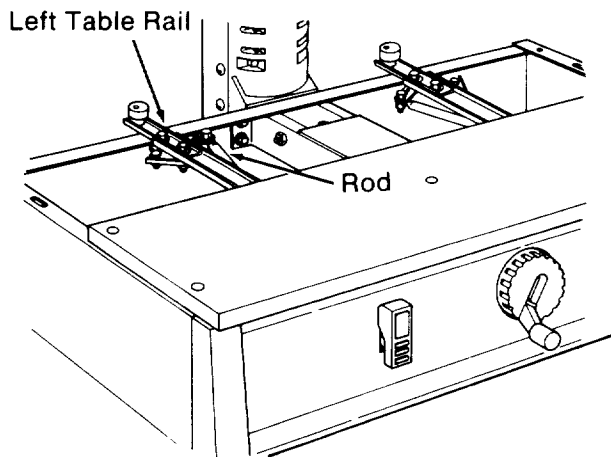

Fig. 41
10. Attach the *left rod* to the *left table rail* with a hex head bolt and flat washer. Then put another washer and a locknut on the bolt, and tighten using two 1/2 inch wrenches or sockets. (Figure 41)